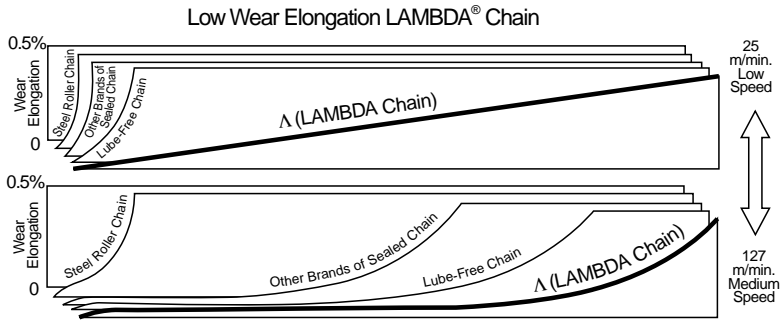

Figure 1.8 Comparison of LAMBDA® Chains and Other Chains
- (1) LAMBDA Roller Chains outlast Standard Roller Chains without lubrication up to 30 times longer at low speed (about 25 m/min.) and seven times longer at medium speed (about 127 m/min.). (See Figure 1.8.)